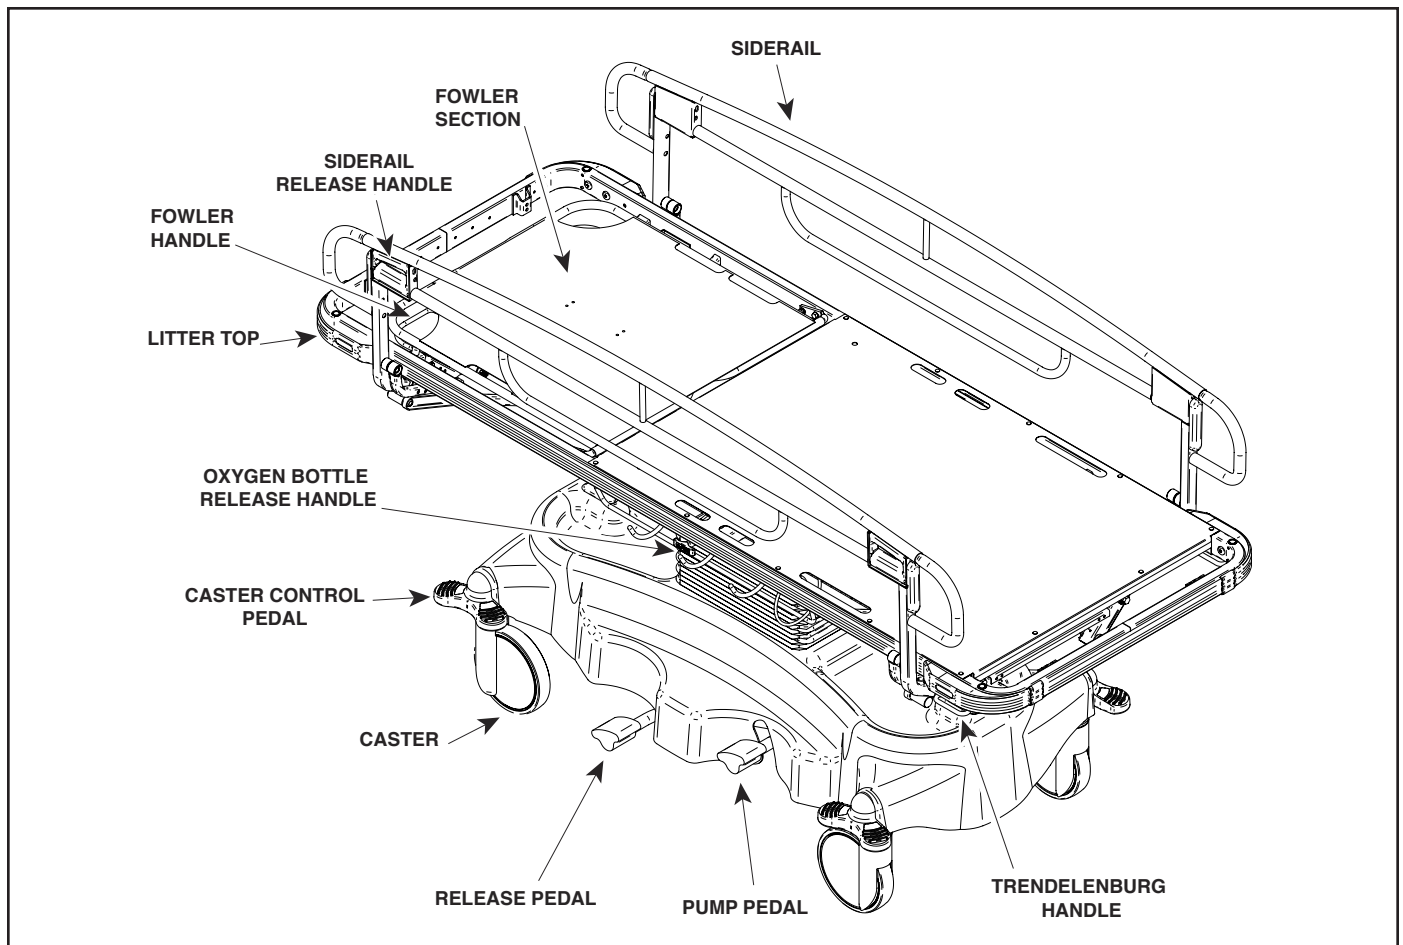

Figure 2-1. Operational Test
- (1) Squeeze the Fowler handle and move the Fowler section up and down; then release the Fowler handle when the Fowler section is in the halfway up position and exert pressure on the Fowler section (Refer to Figure 2-1).
- (2) Observe. The Fowler section should move up and down easily when the Fowler handle is squeezed. The movement of the Fowler section should not feel spongy. The Fowler section should not drift downward by itself when pressure is exerted on the Fowler section.
- (3) Squeeze the Trendelenburg handle and move the litter top up and down; then release the Trendelenburg handle when the litter top is in the halfway up Trendelenburg position and exert pressure on the litter top.
On 750N and 750W stretchers, the siderail release handle is located at both ends of the siderail. See Figure 2-1.